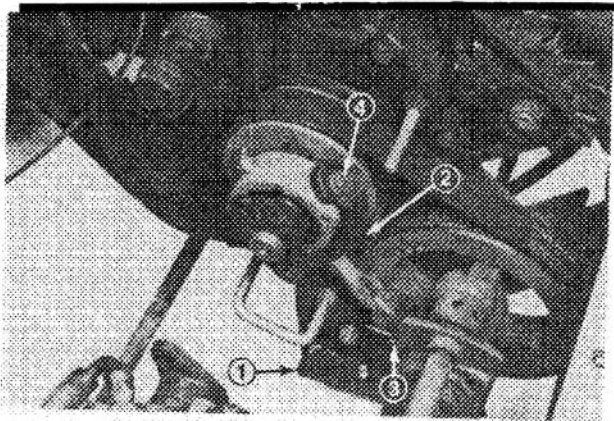

Figure 74
3. Remove cap screws securing belt guide bracket to mounting flange on engine plate (Fig. 74).
4. Remove cotter pin, clevis pin and cap screws securing PTO fork (Fig. 74).
8. Install PTO fork with bushings, capscrews, clevis pin and cotter pin (Fig. 74).
9. Install belt guide bracket with capscrews, flatwashers, lockwashers and nuts (Fig. 74).
1. Remove capscrews, flatwashers, lockwashers and nuts securing belt guide bracket (Fig. 74).